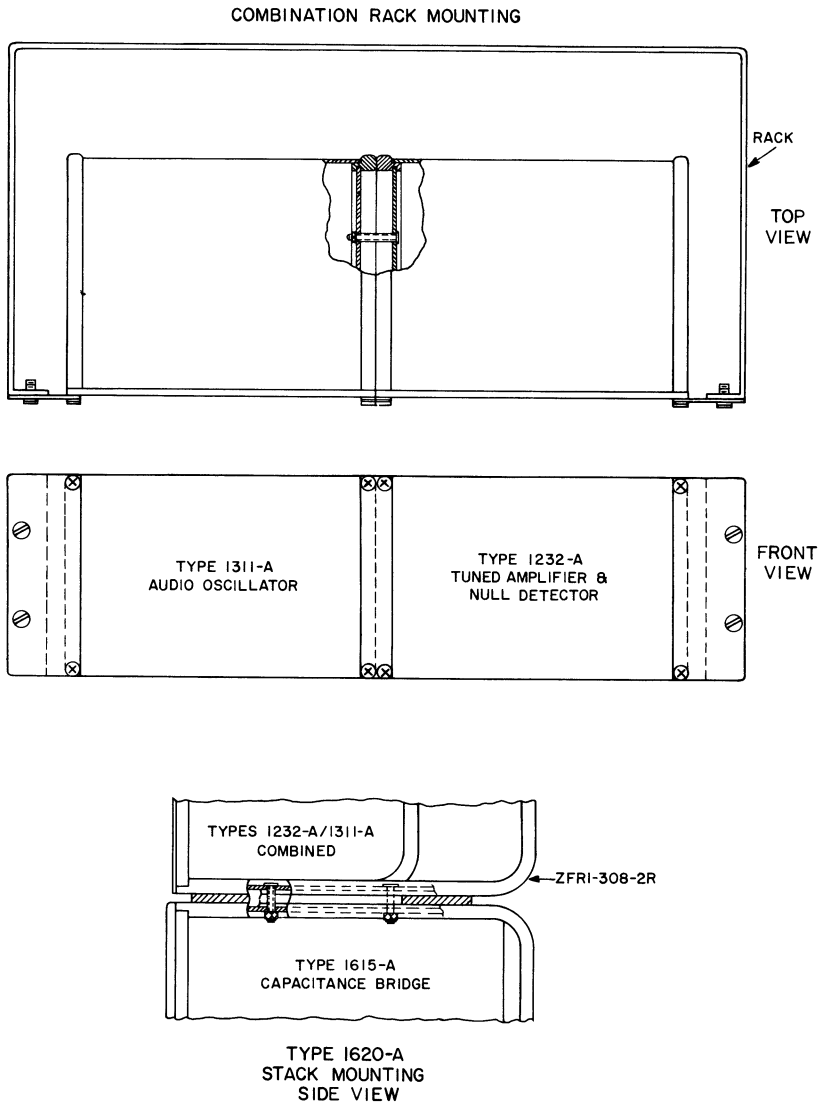

Figure 2-1. Mounting options.
2.2.2 COMBINATION. To combine the Type 1311-A in a standard relay-rack mounting configuration with the Type 1232-A Tuned Amplifier and Null Detector, the Type 480-P316 Adaptor Plate Set should be used. This set consists of a pair of adaptor plates which attach to the outside edges of the front panels of the instruments and an adaptor strip which joins the instruments (see Figure 2-1). The $\frac{1}{2}$ -inch mounting screws in the corners of the instrument are used to attach the adaptors. The end frames should be left in place, but the rubber mounting feet may be removed.
2.2.3 TYPE 1620-A PRECISION CAPACITANCE MEASURING ASSEMBLY. The Type 1311-A is an integral part of the Type 1620-A Precision Capacitance Measuring Assembly (see Figure 2-1). As such, it is mounted in combination with the Type 1232-A Tuned Amplifier and Null Detector, as described in paragraph 2.2.2. To the combined assembly is added a pair of large-sized end frames (part No. ZFRI-308-2R). The complete assembly is then stack-mounted on top of a Type 1615-AM Capacitance Bridge and the large end frames fastened together by machine screws.